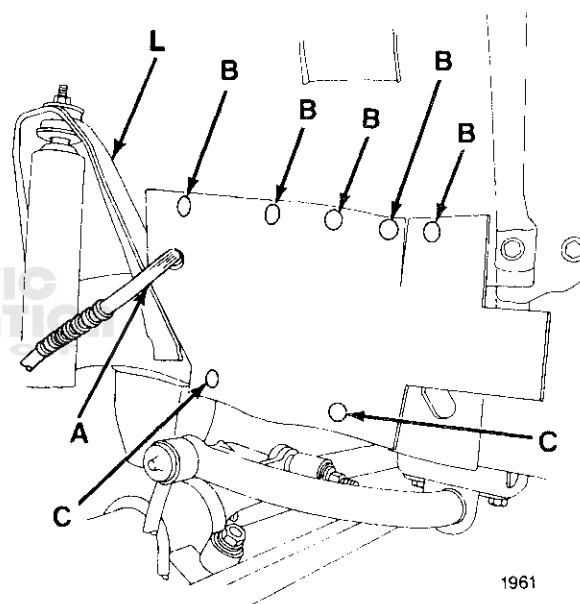

Fig. 1
3. Position a front splash shield to the right front wheelhouse using the brake hose as a locator (A-Fig. 1).
4. Mark the center of each splash shield hole. There are five holes for the wheelhouse and two holes for the frame (B, C-Fig. 1).
7. Position splash shield and install it using panel fasteners (Fig. 1). Push the rear end of shield in behind shock absorber bracket (L-Fig. 1).
9. Mark the center of the top splash shield holes. Do not mark the two lower holes at the frame (C-Fig. 1). These holes are not used on the driver side shield.